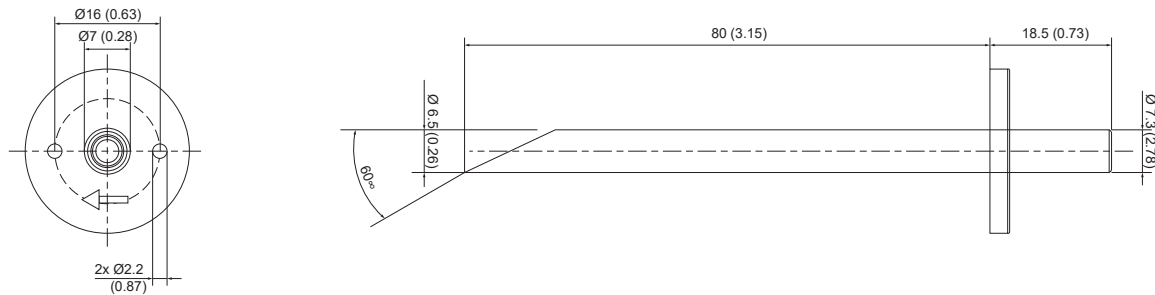

Fig. 5 Dimensions of pressure connection nipples
- To connect the hoses to a duct, use the pressure connection nipples (available as an optional accessory). Use a $\varnothing 7.5$ mm (0.30") drill bit for the holes according to the dimensions in Fig. 5.